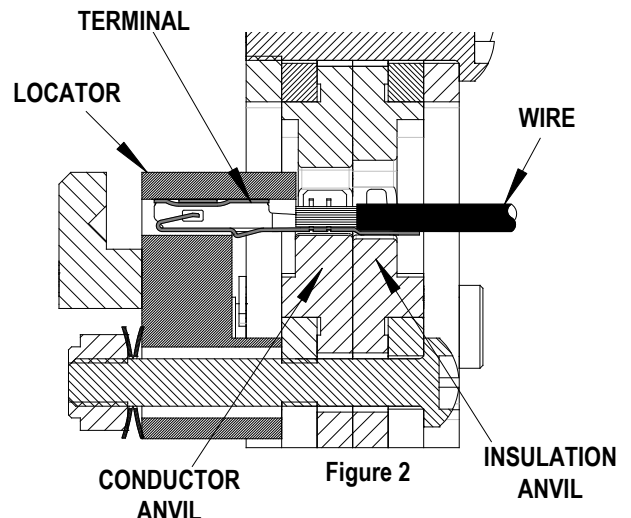

Figure 2
4. Place a pre-stripped wire into the terminal (see Scope chart for recommended strip lengths). Position the wire so the conductor lies in the conductor grip. See Figure 2.
If the tool ever becomes jammed in a partially closed position, **DO NOT force the handles open or closed.** The tool will open by lifting the ratchet release lever. See Figure 2.